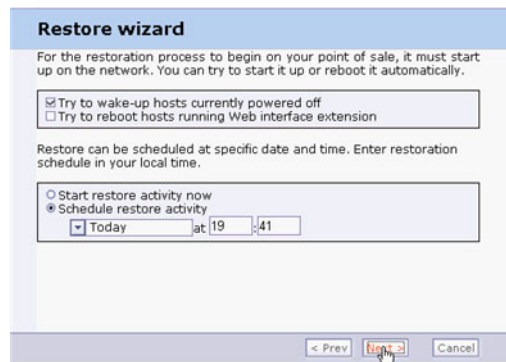

Figure 5-23 Schedule the restore
6. Indicate if Tivoli Provisioning Manager for OS Deployment should attempt to power on and/or reboot the target POS terminal in preparation for the restore. Also, specify whether the restore should begin immediately or at a future date and time (Figure 5-23) and click **Next**.